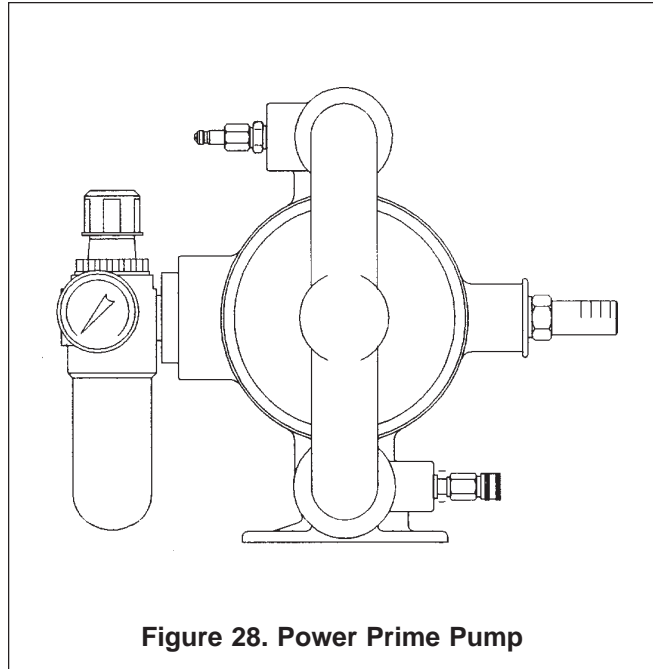

**Figure 27. Doubling Bar**
**DOUBLING BAR.** (See Figure 27.)